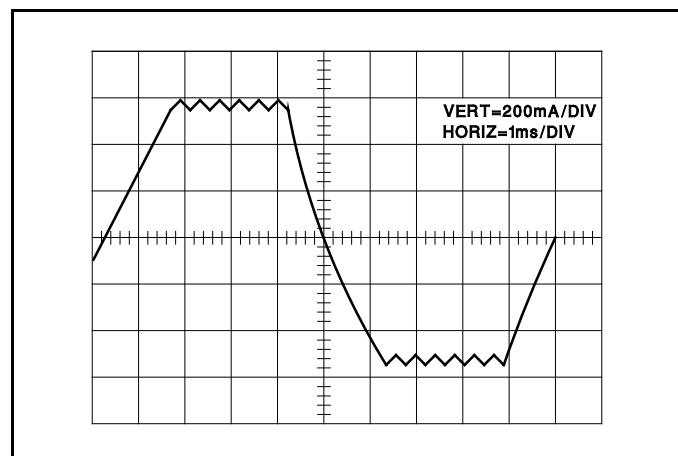

Figure 8
**Operation:** When the voltage is applied across the motor winding the current rises linearly and appears across the external sense resistor as an analog voltage. This voltage is fed through a low pass filter  $R_C$ ,  $C_C$  to the voltage comparator (pin 10). At the moment the voltage rises beyond the comparator threshold voltage the monostable is triggered and its output turns off the sink transistors. The current then circulates through the source transistor and the appropriate Schottky diode. After the one shot has timed out, the sink transistors are turned on again and the procedure repeated until a current reverse command is given. By reversing the logic level of the phase input (pin 8), both active transistors are being turned off and the opposite pair turned on. When this happens the current must first decay to zero before it can reverse. The current path then provided is through the two diodes and the power-supply. Refer to Figure 7. It should be noted at this time that the slope of the current decay is steeper, and this is due to the higher voltage build up across the winding. For better speed performance of the stepping motor at half step mode, the phase logic level should be changed at the same time the current inhibit is applied. A typical current wave form is shown in Figure 8.